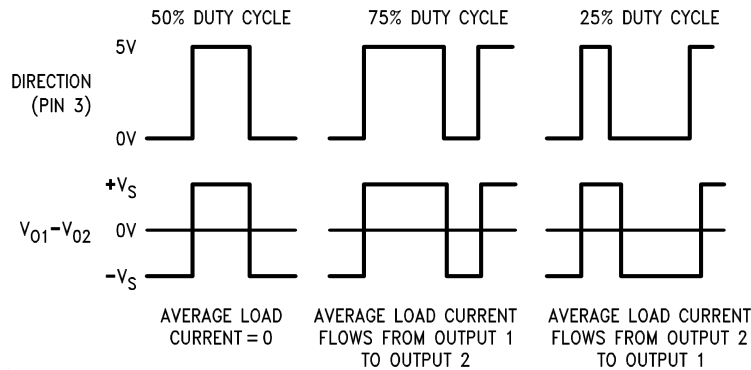

Figure 11. Locked Anti-Phase PWM Control
**Simple, locked anti-phase PWM** consists of a single, variable duty-cycle signal in which is encoded both direction and amplitude information (see Figure 11). A 50% duty-cycle PWM signal represents zero drive, since the net value of voltage (integrated over one period) delivered to the load is zero. For the LMD18200, the PWM signal drives the direction input (pin 3) and the PWM input (pin 5) is tied to logic high.